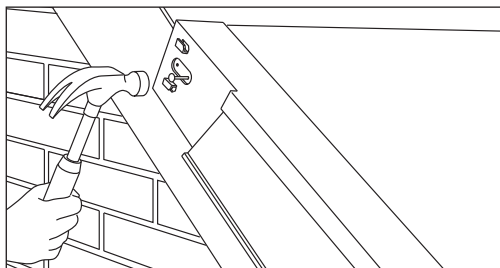

Fig 4 Nail fix verge unit
- 10 After sliding eaves roof tile downwards into position, nail verge unit using appropriate hole (i.e. nearest to the centre of tiling batten) with 40mm x 3.35mm annular ring shank nail provided in fixing kit (Fig 4).